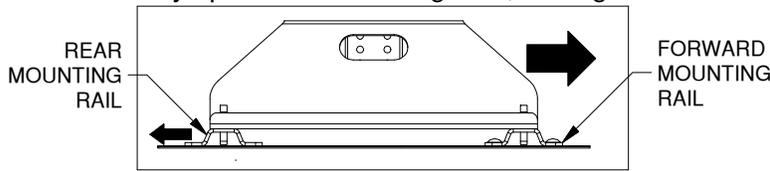

Figure C2: Side view of RV base and mounting rails.
- IMPORTANT:** Before drilling rear mounting holes pull the RV base towards the cab of the truck and push the rear rail towards the rear of the truck to correctly space the mounting rails, see figure C2.